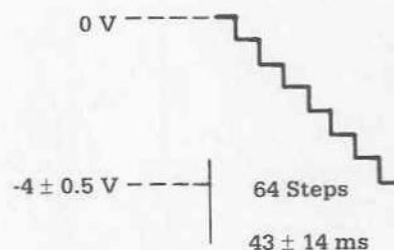

Figure 7-2
3. Connect the oscilloscope to TP-12 and set it for 1 V/division vertical scale and 5 ms/division horizontal scale. Check for a negative staircase waveform having 64 steps. The waveform should look like Figure 7-2.